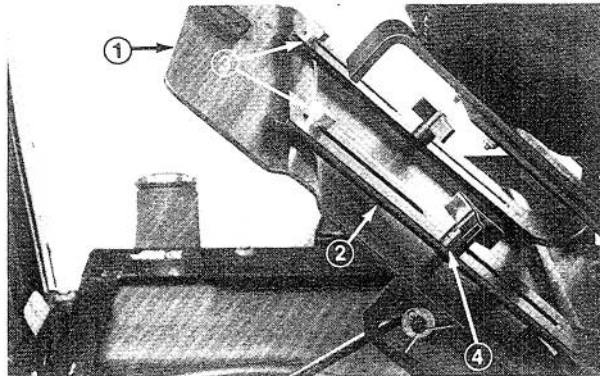

Figure 3
3. Mount seat and spring assembly to rear holes in traction unit mount plate with two shoulder bolts, flat washers and locknuts (Fig. 3).
4. Secure front slots of seat springs to traction unit front mounting holes with adjustment handles and flatwashers (Fig. 3).